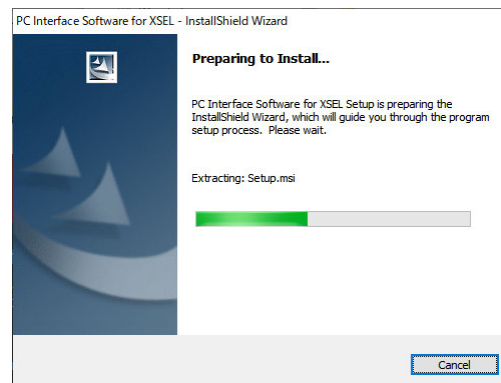

Fig. 1.7 Preparing to Install
- 5) Installation preparation (Fig. 1.7) begins.